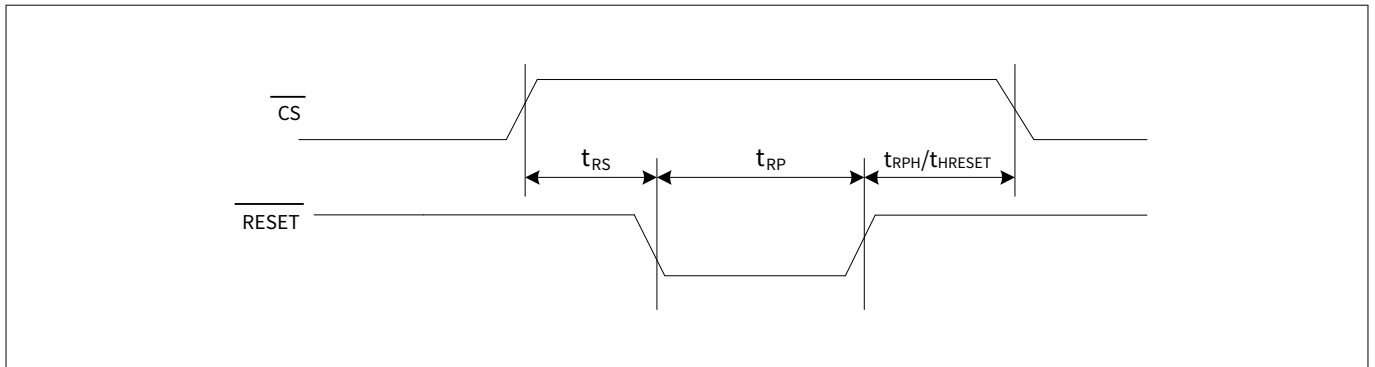
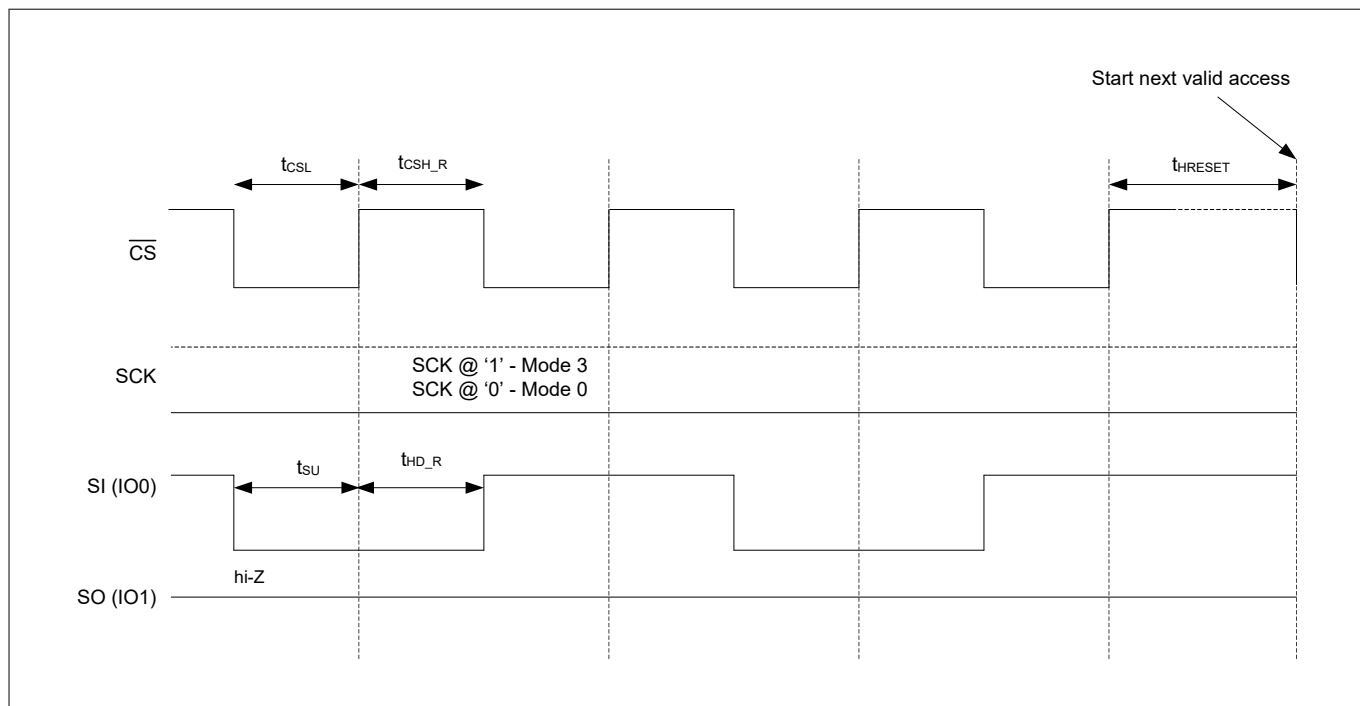

Figure 111 \overline{RESET} timing - SPI with QUAD set (CR1[1]= '1') or QPI enabled (CR2[6] = '1')
Figure 113 JEDEC SPI reset
The hardware reset input ($\overline{\text{RESET}}$) is multiplexed on ($\overline{\text{RESET}}$ / I/O3) and is an active LOW signal in CY15x104QSN device. Refer to Table 21 for hardware reset ($\overline{\text{RESET}}$) pin configurations across various SPI interfaces. When $\overline{\text{RESET}}$ is pulled LOW, CY15x104QSN self initializes and brings its configuration back to the power up status. Refer to Table 59 for different registers configuration after $\overline{\text{RESET}}$ cycle. Once $\overline{\text{RESET}}$ is issued, CY15x104QSN takes $t_{\text{RPH}}/t_{\text{HRESET}}$ time from $\overline{\text{RESET}}$ rising edge to complete the reset cycle. CY15x104QSN becomes inaccessible during t_{RPH} time. Figure 111 to Figure 113 show the $\overline{\text{RESET}}$ timings in different reset mode.
- The $\overline{\text{RESET}}$ pin is multiplexed on I/O3 in the QPI mode. When using the hardware ($\overline{\text{RESET}}$) in QPI mode, the CR2 [5] bit must be set to '1' to enable to use I/O3 as $\overline{\text{RESET}}$ input when $\overline{\text{CS}}$ is HIGH. Figure 111 shows the $\overline{\text{RESET}}$ / (I/O3) timing in QPI mode
Refer to Figure 113 for timing details.